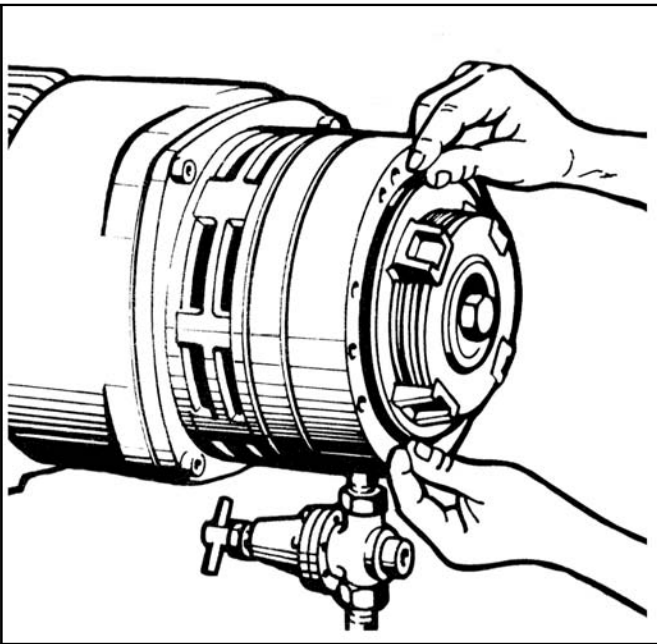

Figure 3.8 - Installing O-Ring (#30)
2. Install Separator Springs (#17) on Drive Plates (#18) (See Figure 3-8). Simply snap the springs over the large end of the rivets in Drive Plates (#18.) Install four springs per drive plate.
1. Lubricate O-Ring (#30) with a light coating of Vaseline or equivalent and place it on the Piston Assembly Shoulder (See Figure 3.8 on next page).